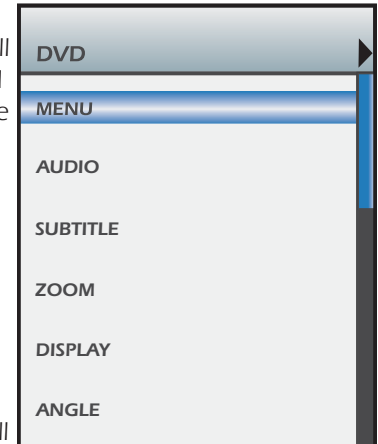

Figure 32
2. **Press** the **Click Button** to **select** the **Source**. The Zone will turn ON. The Source selected will be displayed at the top of the LCD. (Refer to **Figure 32**)
1. From the **MODE Main Menu**, roll the **Scroll Wheel** to **highlight** a **Source** and then press the **Click Button** to **select** the **Source**. The selected source name will appear at the top of the LCD. Any Virtual Buttons programmed for that source will appear in the LCD. (Refer to **Figure 32**)